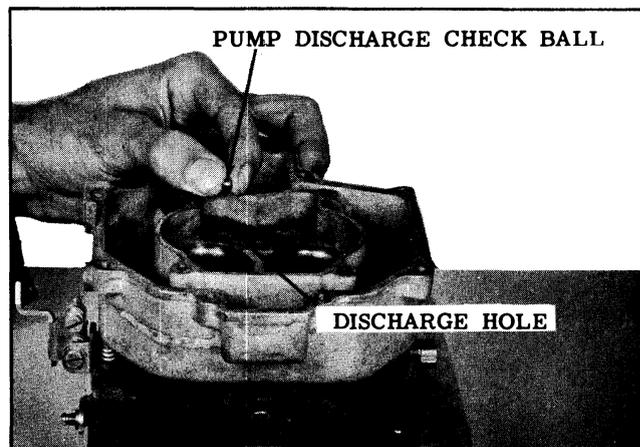

Fig. 8-132 Installing Check Ball
3. Drop steel pump discharge check ball into discharge hole (See Fig. 8-132), and replace spring and "T" shaped guide.